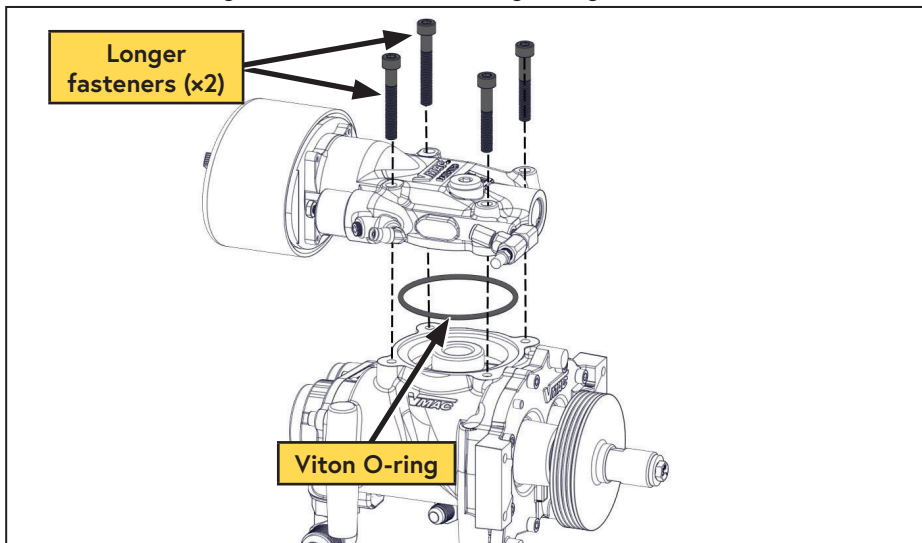

Figure 71 — Inlet valve fasteners
- ☐ Ensure the O-ring is not defective or damaged (Figure 71).